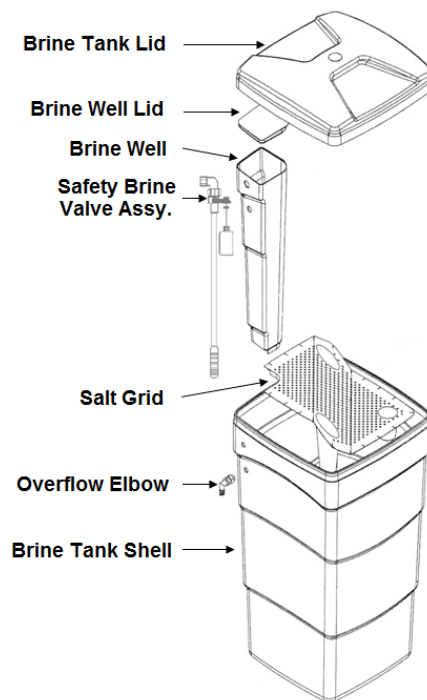

**FIGURE 6: Top View of Control Valve with Bypass Installed**
- STEP 5:**        **Apply thread tape to DLFC Assembly.** Remove drain line flow control (DLFC) retainer clip (Figure 6) and remove the DLFC assembly from the valve body, (Figure 6). Unscrew drain line elbow (not shown) from DLFC. Apply thread tape to threads and re-attach the barbed drain line elbow. Reinsert DLFC assembly into the valve body, making certain it is FULLY inserted before replacing the retaining clip.
- STEP 6:** **Install softener drain line.** Use ½" I.D. polyethylene tubing (**DO NOT USE FLEXIBLE VINYL TUBING!**) to run drain line from control valve barbed DLFC elbow fitting (Figure 6, Page 5, not shown) to floor drain or sump pit capable of handling the backwash rate of the filter (refer to specifications and flow rate on page 15) or discard the barbed fitting and use ¾" NPT fitting to connect a rigid pipe drain line (recommended). If backwash flow rate is greater than 7 gpm, use ¾" drain line. There must be an air gap at the end of the drain line to prevent siphoning of waste water. Length of drain line should be 15' or less. **AVOID OVERHEAD DRAINS.**
- STEP 7:** **Connect brine line between the control valve and safety brine valve.** Install the 3/8" O.D. polyethylene tube from chlorine generator (Figure 6, Page 5) to the safety brine valve (Figure 7) inside the brine tank. **DO NOT INSERT THE BRINE REFILL LINE INTO THE BRINE TANK OVERFLOW ELBOW FITTING. Do not put salt in the tank until STEP 18.**